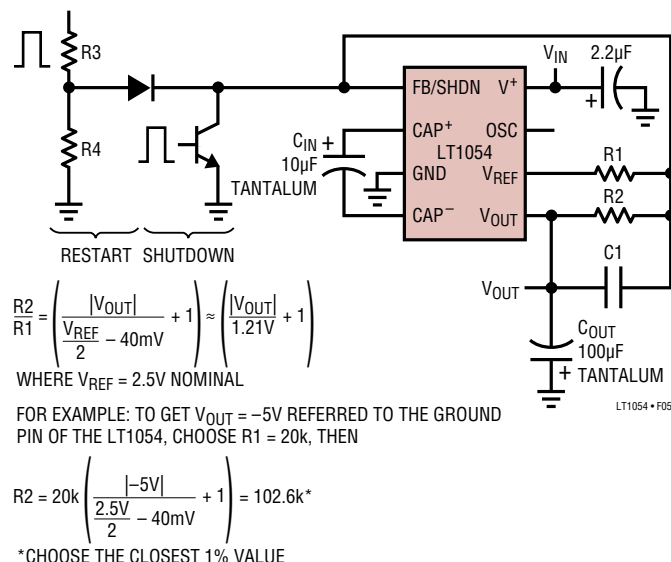

Figure 5
**FB/SHDN (Pin 1):** Feedback/Shutdown Pin. This pin has two functions. Pulling Pin 1 below the shutdown threshold ( $\approx 0.45\text{V}$ ) puts the device into shutdown. In shutdown the reference/regulator is turned off and switching stops. The switches are set such that both  $C_{IN}$  and  $C_{OUT}$  are discharged through the output load. Quiescent current in shutdown drops to approximately  $100\mu\text{A}$  (see Typical Performance Characteristics). Any open-collector gate can be used to put the LT1054 into shutdown. For normal (unregulated) operation the device will start back up when the external gate is shut off. In LT1054 circuits that use the regulation feature, the external resistor divider can provide enough pull-down to keep the device in shutdown until the output capacitor ( $C_{OUT}$ ) has fully discharged. For most applications where the LT1054 would be run intermittently, this does not present a problem because the discharge time of the output capacitor will be short compared to the off-time of the device. In applications where the device has to start up before the output capacitor ( $C_{OUT}$ ) has fully discharged, a restart pulse must be applied to Pin 1 of the LT1054. Using the circuit of Figure 5, the restart signal can be either a pulse ( $t_p > 100\mu\text{s}$ ) or a logic high. Diode coupling the restart signal into Pin 1 will allow the output voltage to come up and regulate without overshoot. The resistor divider  $R3/R4$  in Figure 5 should be chosen to provide a signal level at pin 1 of  $0.7\text{V}$  to  $1.1\text{V}$ .
The error amplifier of the LT1054 servos the drive to the PNP switch to control the voltage across the input capacitor ( $C_{IN}$ ) which in turn will determine the output voltage. Using the reference and error amplifier of the LT1054, an external resistive divider is all that is needed to set the regulated output voltage. Figure 5 shows the basic regulator configuration and the formula for calculating the appropriate resistor values.  $R_1$  should be chosen to